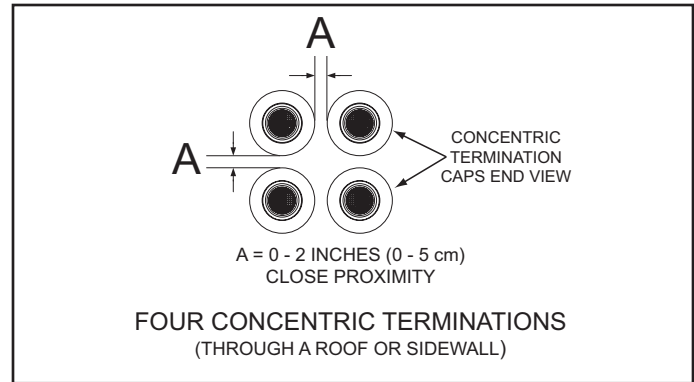
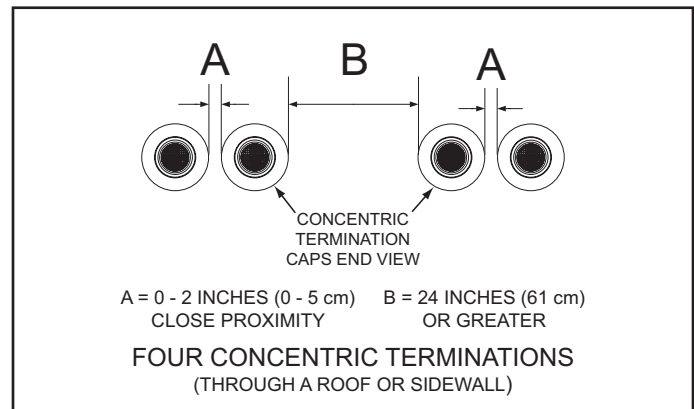
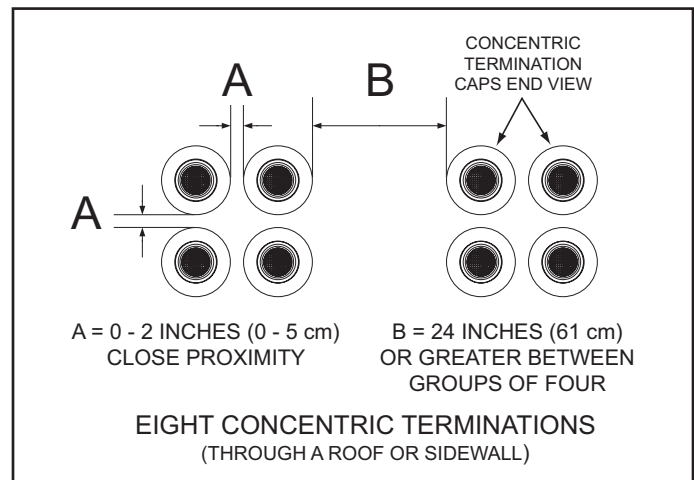
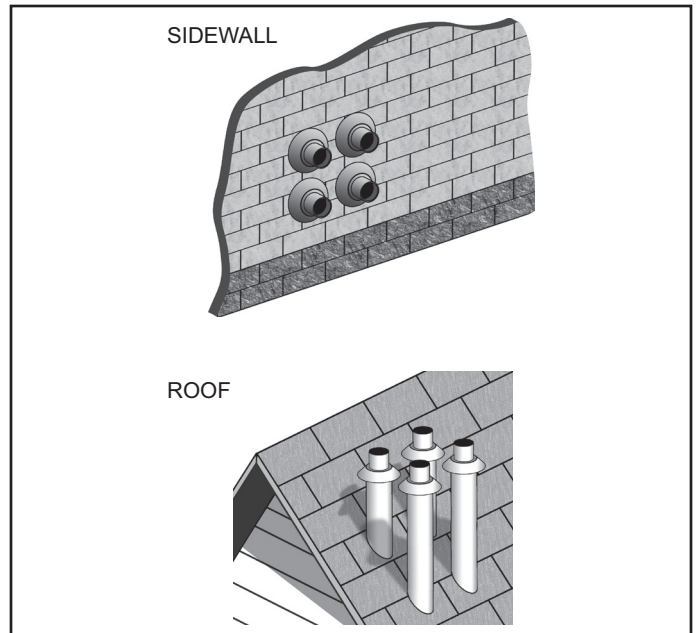

Figure 34
Figure 35
Figure 36
Figure 38
1. When installing four concentric terminations through a roof or through a sidewall in close proximity they may be arranged into stacked rows of two as shown in Figure 34 or lateral rows of two as shown in Figure 35.
2. Four is the maximum number of concentric terminations that may be installed in a group where all terminations are in close proximity as shown in Figure 34.
1. When installing multiple groups of concentric terminations through a roof or through a sidewall in close proximity they can be installed into stacked groups of four as shown in Figure 36. Lateral groups of four as shown in Figure 35 may be a more convenient installation arrangement for multiple groups depending on available space.
Four concentric terminations may be installed in close proximity as shown in Figure 38. See Figure 34 and Figure 35 on page 30 for detailed information on clearances and additional arrangement options.
Eight concentric terminations may be installed in two stacked groups of four, in close proximity, as shown in Figure 39. See Figure 36 on page 30 for detailed information on clearances.
Lateral groups of four as shown in Figure 35 on page 30 may be a more convenient installation arrangement for multiple groups depending on available space.